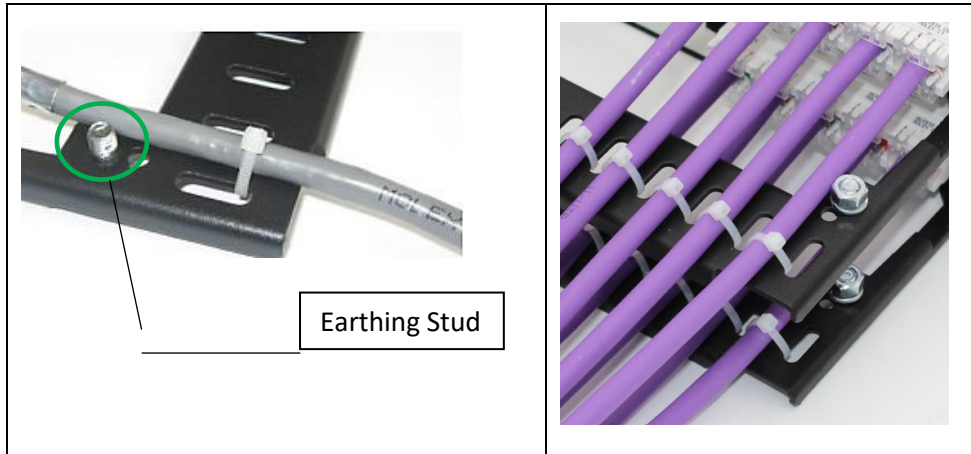
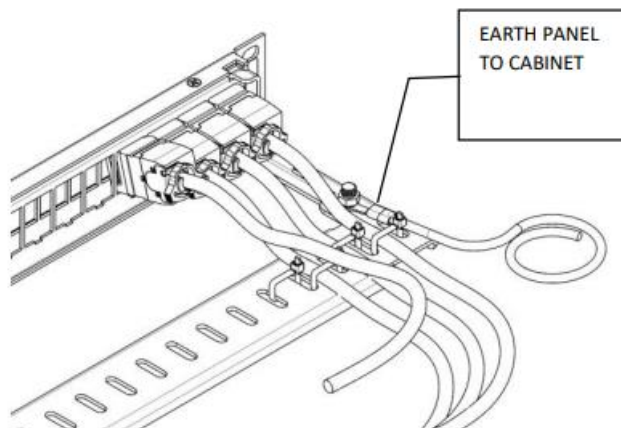

Fig. 2
Fig. 3
c) Secure each cable on to the cable management tray with a cable tie. Fig 2.
d) When installing Shielded Keystone Jacks ensure that the panel is earthed using the earthing stud and nut provided. Fig 2 & Fig.3 Note: Earthing cables are not supplied.